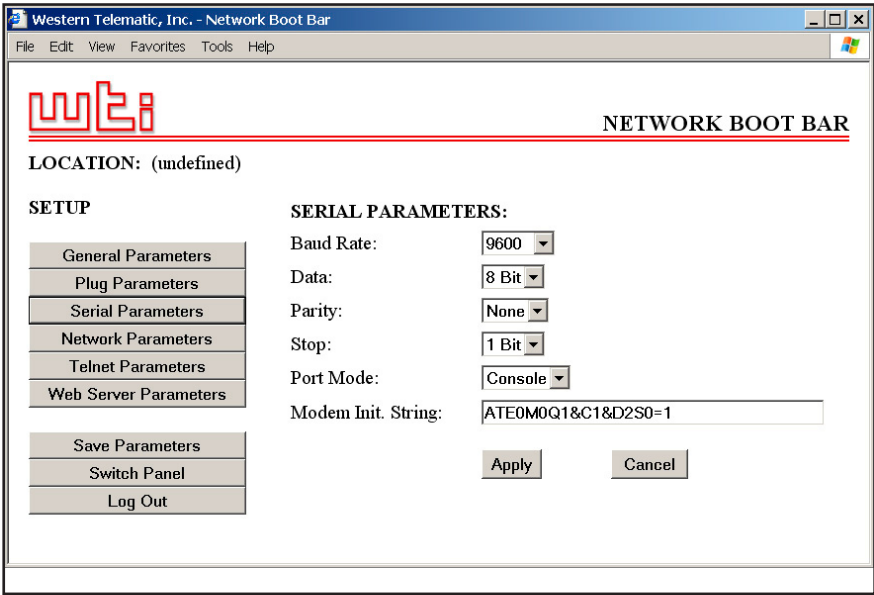
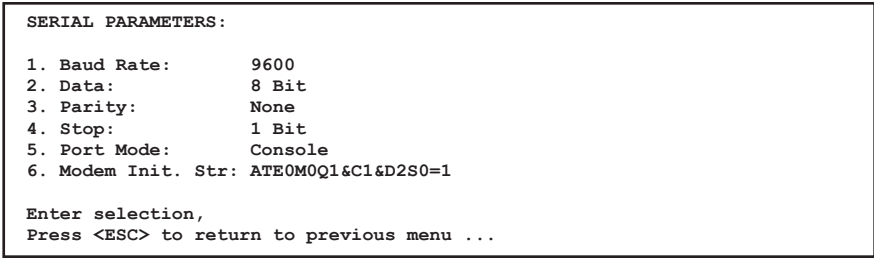

Figure 5.5: Serial Parameters Menu - Web Browser Interface
Figure 5.6: Serial Parameters Menu - Text Interface
- **Web Browser Interface:** Click the "Setup" button to access the Setup Menus, and then click the "Serial Parameters" button. The Serial Parameters Menu will be displayed as shown in Figure 5.5.
- **Text Interface:** Type `/C` and press **[Enter]**. The Serial Parameters Menu will be displayed as shown in Figure 5.6.
As shown in Figure 5.5 and Figure 5.6, the Serial Parameters Menus allow you to define the following parameters: